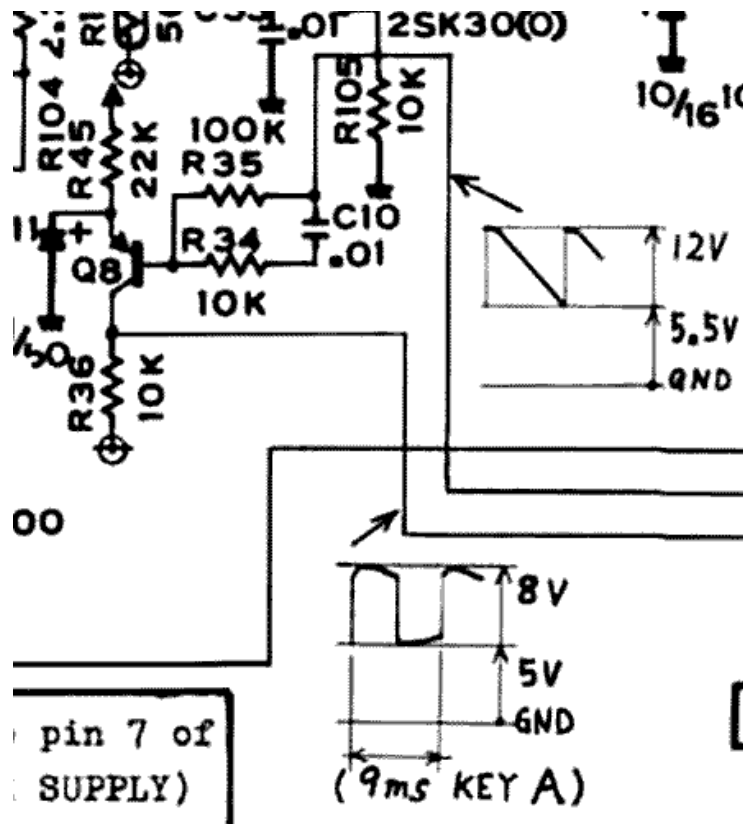
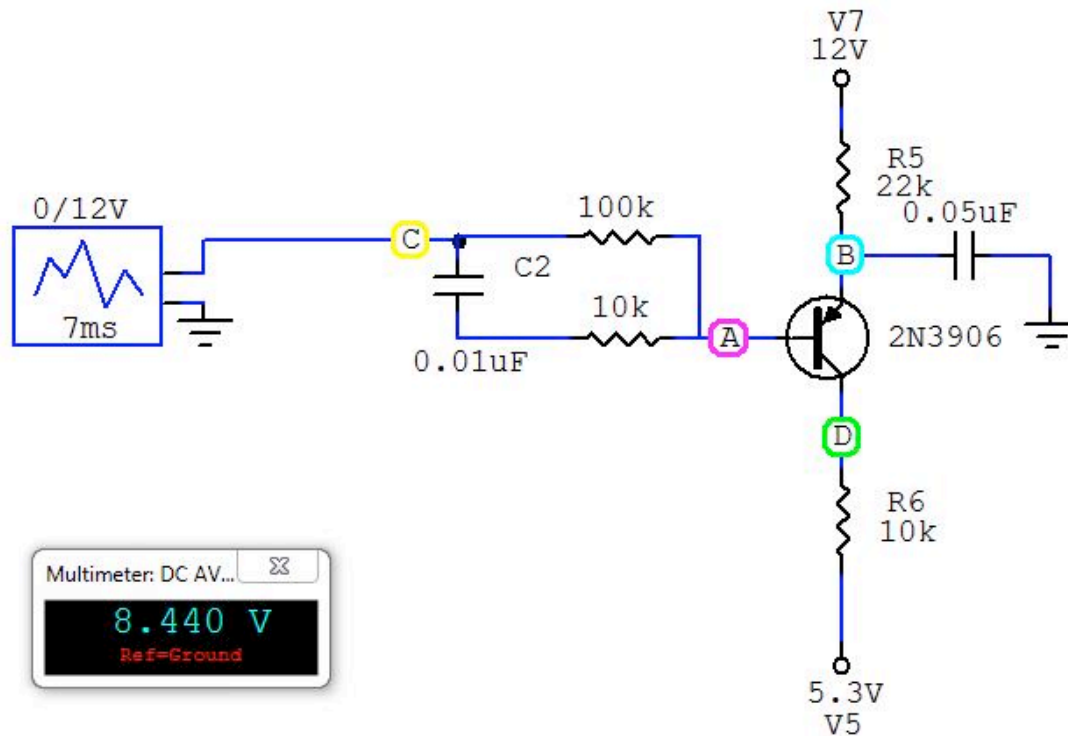
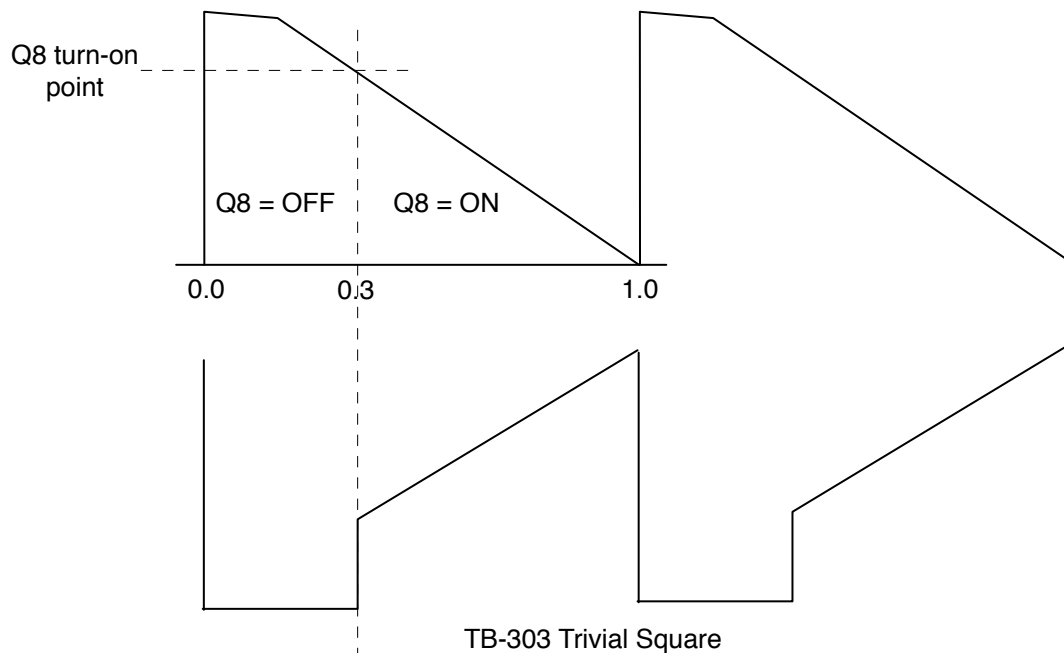
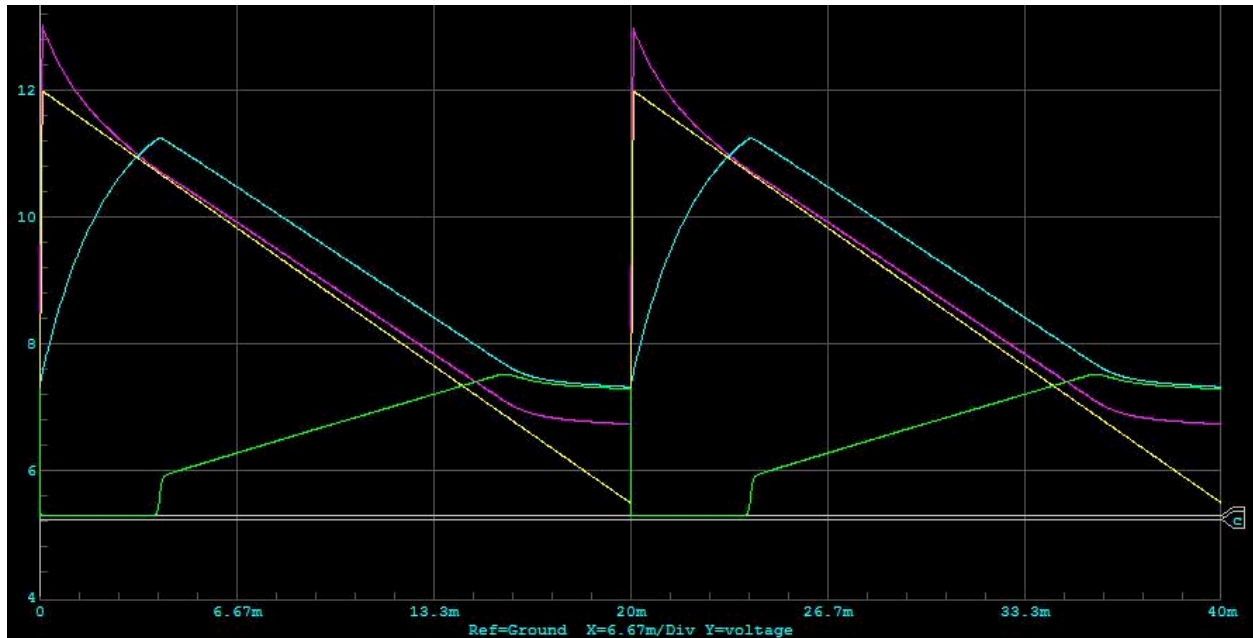

Figure 1: saw and square waves from the TB-303 service manual
Figure 5: CircuitMaker simulation of the saw to square circuit
Figure 6: trivial square wave formed by Q8 waveshaper
Figure 8: two sawtooth cycles applied to Q8 for  $f = 50$  Hz
The TB-303 VCO generates a sawtooth wave with a “smashed” top. The square wave is very non square. This is shown in Figure 1 which is taken from the TB-303 Service Manual; the waveforms are drawn by hand and are there for a technician to refer to during repairs.
Refer to Figure 1 and transistor Q8; this is a PNP transistor so it will only conduct when the base is 0.6V *lower* than the emitter. The emitter voltage is established with the collector and emitter resistors which set up the bias current. This voltage is about 8V on the TB-303, the CircuitMaker circuit is in Figure 5.
Suppose the sawtooth (driving the base) is at a maximum 12V (see Figure 1) then the transistor Q8 is off and the output (collector) sits at its negative rail, 5.3V. The sawtooth drops and the output stays clamped at 5.3V until the base voltage drops 0.6V below the emitter; at this point the transistor conducts and produces an *inverted* version of the input ramp at the collector. I am calling this the **trivial version** of the waveform; you need to generate this waveform without polyBLEP for Part 2.1 of the project. In Figure 6 you can see this as it relates to the sawtooth. Using CircuitMaker I found that the Q8 turn-on point is at the 30% duty cycle point for a 100Hz waveform, corresponding to a modulo counter value of 0.3 and also shown in Figure 6.
2. **Mimic the waveform with a custom waveshape of your design and apply polyBLEP to reduce aliasing;** in the template plug-in I will provide, there is a polyBLEP button so you can make sure it works. You will need to implement the function calls correctly. Be careful - remember the rules about polyBLEP - you need to know the discontinuity height (unipolar, I will explain in class). Figure 8 shows the difference in my TB-303 trivial saw with and without polyBLEP.
Figure 6 doesn't tell the whole story behind the waveform. The reason is that as the current increases through the emitter resistor, the voltage on the emitter side drops. When it hits the the same value as the collector voltage, it begins to squash it as shown in Figures 8, 9, 10 and 11 from my CircuitMaker simulation. (Blue is emitter, Green is output)
In Figures 8, 9, 10, 11 the color codes are:
You do **not** have to implement the change in duty cycle or change in waveshape with change in frequency. However, your model will need to be able to have the duty cycle adjusted. In future projects, you may decide to investigate this further and model it more completely (perhaps for a final project?) but **for this project, use the  $f = 100\text{Hz}$  plot in Figure 8 to base your calculations on.**